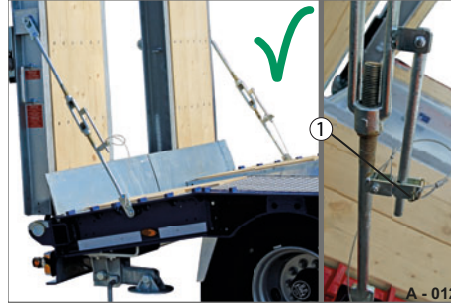

Fig. 11 Turnbuckle secured
- Secure the turnbuckle in the holder with the safety splint pin (Fig. 11/1). The turnbuckle is secured against turning by itself.